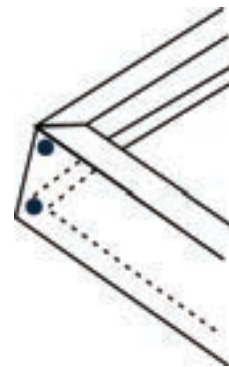

Figure 17: Holes in end-plate
- Alternatively, holes at least 1/2-inch (13 mm) in diameter can be placed in the web within 1/4-inch (6 mm) of the end-plate. To facilitate drainage, end-plates should have holes placed as close to interior corners as possible (*Figure 17*).